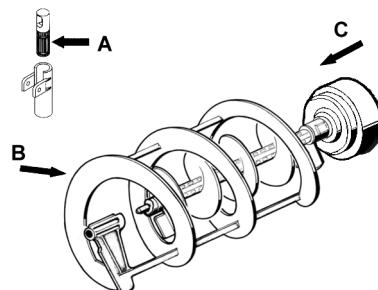

figure 12
- 2 Lubricate faucet piston, inside auger and outer spiral (see points A, B and C of figure 12) only with the grease supplied by the manufacturer or other food grade approved lubricant.